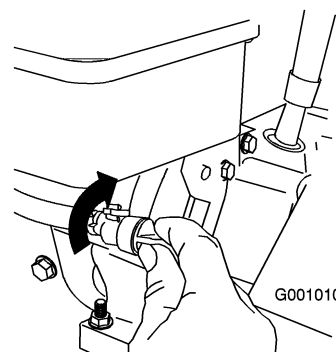

Figure 27
3. Close the fuel shutoff valve by rotating it clockwise (Figure 27).